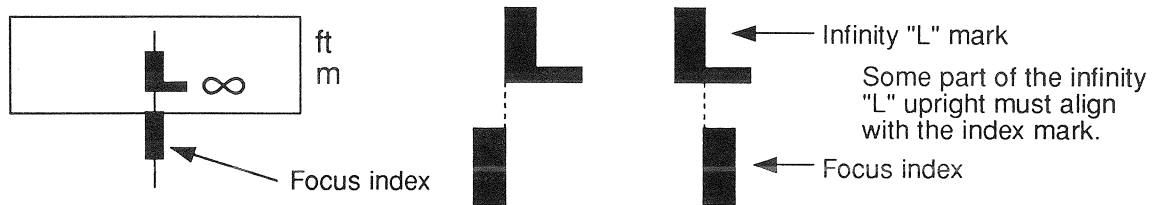

Fig. 3-24 Focus Adjustment Standards
2. Check the star image. If it appears as "A" or "B" in Fig. 3-24, disassemble up to the above preparation step 1 and adjust the 5th Lens Group radially to reach the mode "C" in Fig. 3-24.